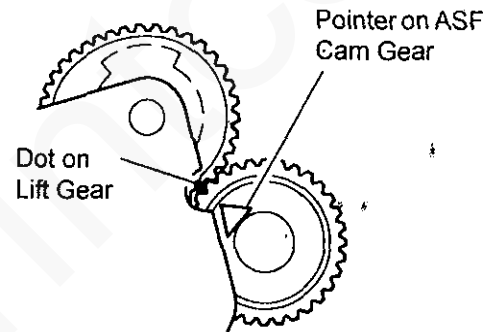
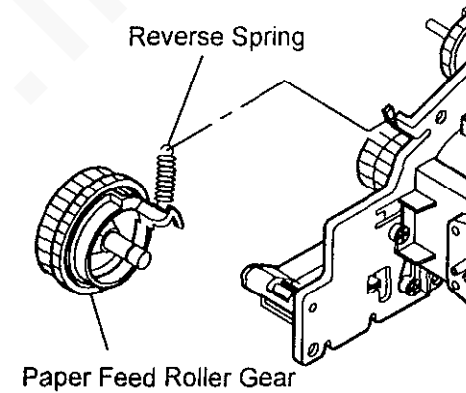

Figure 4 Align marks on gears
Figure 5 Install Reverse Spring
- c. Align the marks on the gears as shown (Figure 4).
- d. Secure the Side Frame Assembly with the three (3) screws.
- e. Install the Reverse Spring oriented as shown (Figure 5).